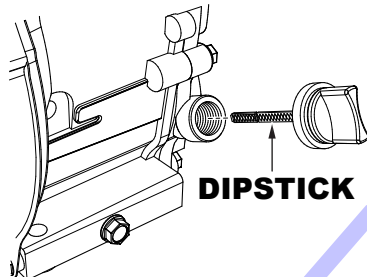

Figure 4. Engine Oil Dipstick Removal
2. Remove the filler dipstick from the engine oil filler hole (Figure 4) and wipe clean.